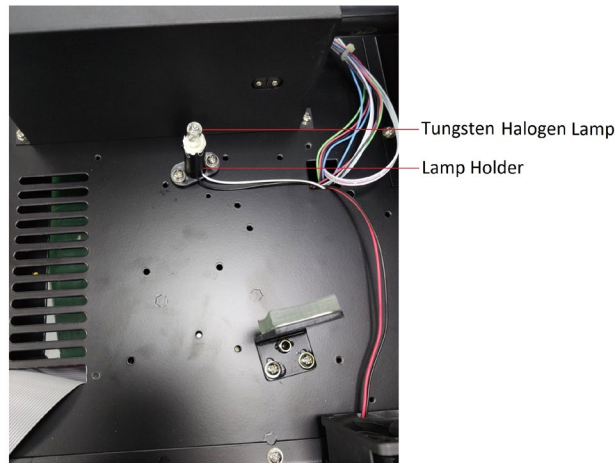

Fig. 4-1
Step 6: Unplug and remove the lamp from the lamp holder (Fig. 4-1). Insert the new lamp by pushing it in as far as it will go.